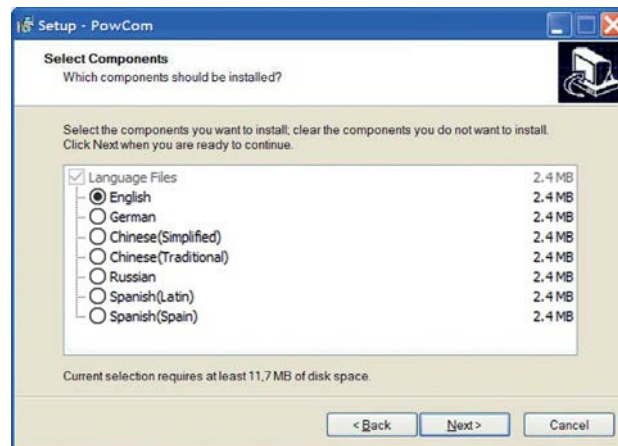

Figure 2-1 Language Selection
6. PowCom™ supports multiple languages. The preferred language can be selected in the language selection page, see Figure 2-1.